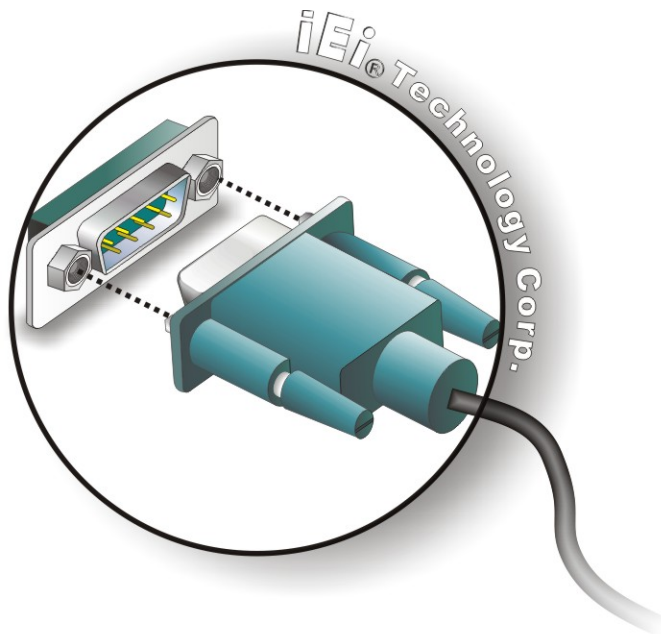

Figure 5-21: Serial Device Connector
Step 2: Insert the serial connector. Insert the DB-9 connector of a serial device into the DB-9 connector on the external peripheral interface. See Figure 5-21.